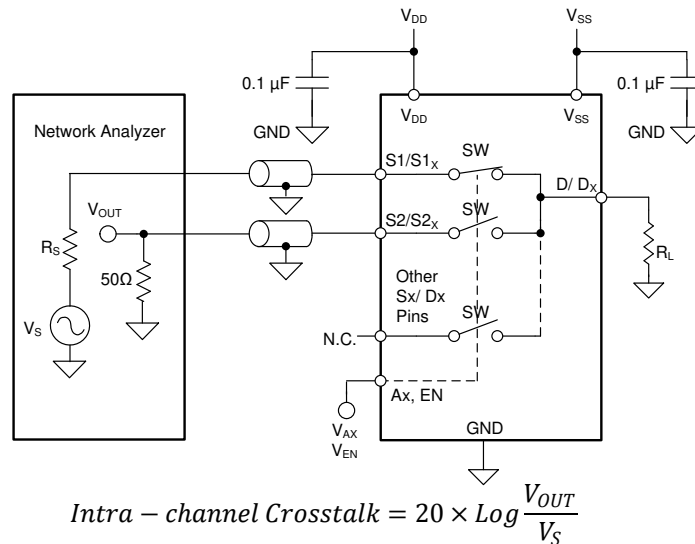

Figure 8-13. Intra-channel Crosstalk Measurement Setup
1. Intra-channel crosstalk ($X_{TALK(INTRA)}$): the voltage at the source pin (S_x) of an off-switch input, when a 1- V_{RMS} signal is applied at the source pin of an on-switch input in the same channel, as shown in Figure 8-13.